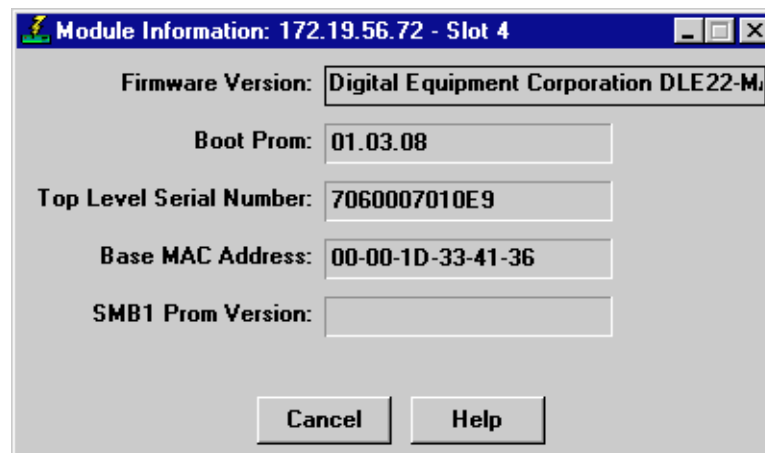

Figure 2-7. The Module Information Window
The Module Information window (Figure 2-7) displays system information, as well as data provided by the PIC chip (Product Information Chip). The PIC chip, which is updated each time a module is redesigned, maintains the manufacturing data for the module and stores certain information such as the MAC addresses of various components. Some devices will not return all the data displayed in the Module Information window; these fields will remain blank.
2. Select **Module Information**. The Module Information window, Figure 2-7, opens.